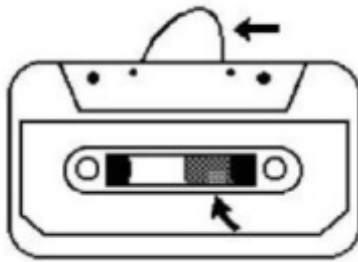
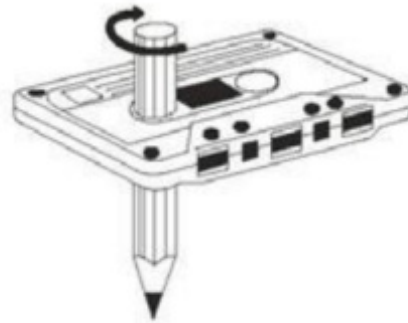

Fig.1
Fig. 2
- Check that there are no loose layers of tape visible through the cassette center window (see Fig. 1). Take up any loose layers, using a pencil or hexagonal barreled ballpoint pen, before inserting the cassette into the machine (see Fig.2)
- If the cassette feels tight while performing the operation shown (see Fig.2), the tape may be jamming due to ridges formed in the winding of the tape (visible through the center window). These may be removed, in most cases, by the fast winding of the cassette from one end to the other and back again.